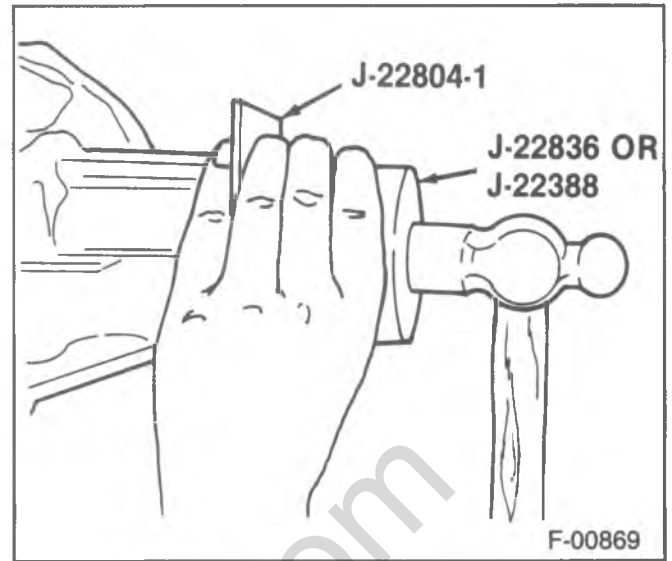

Figure 20—Installing the Pinion Seal
- Position the oil seal in the bore then place J-22804-1 over the oil seal and flat against the seal flange (figure 20).
- Use J-22836 for the 8½-inch ring gear or J-22388 for the 9½-inch ring gear to press the oil seal into the bore (figure 20).